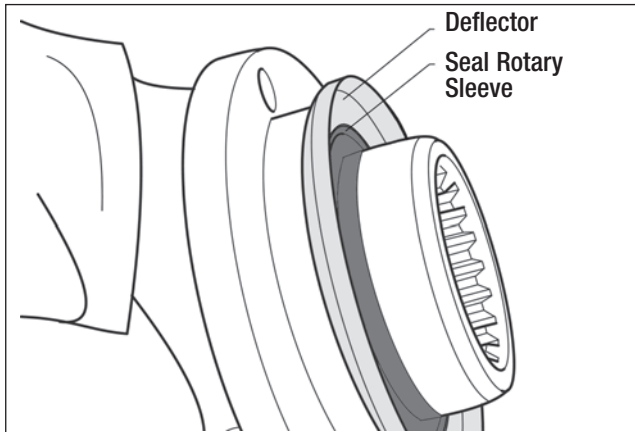

Fig. 4.5
7. Inspect the deflector for damage. If necessary replace the part. (Fig. 4.5)
8. Remove the rotary seal sleeve from the flange. (Fig. 4.5)